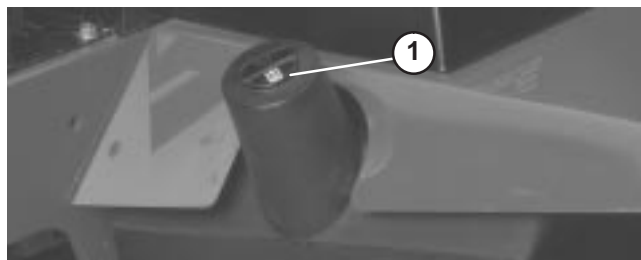

Figure 18
2. Clean area around filler neck and cap of hydraulic tank. Remove cap from filler neck (Fig. 18).